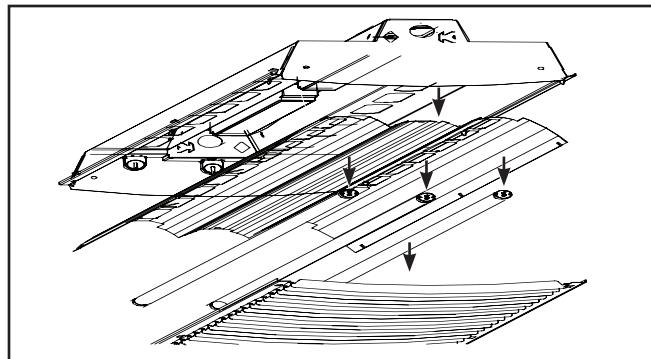

Figure 2.
1. Remove shielding media (baffle, lens or louver). See media removal instructions (Figure 2.).